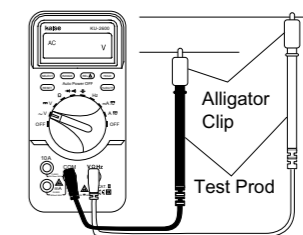

fig.2
- Confirm the power of the circuit to be measured is turned off. Connect Black Alligator Clip to — (earth) side and Red Alligator Clip to + (positive) side. (Refer to fig.2)